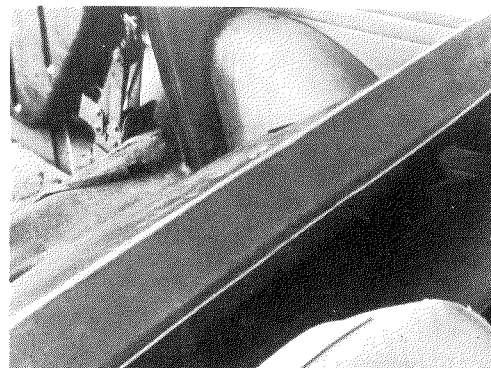

FIG. 18 - Saloon rear seat in hinged forward position
**Rear Seat:** Hinged forwards (Fig. 18) on all except the 'S' saloon. Optional rear seat in the coupé.